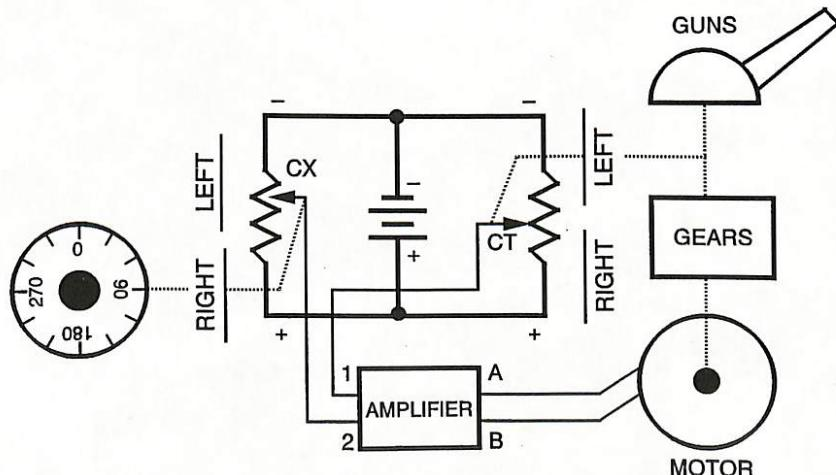

Figure 28. Gun Control Servo System
**Typical position servo.** In an actual system (see Figure 28), the heavy gun turret's momentum tends to carry it past the desired position. This overshoot causes the rotor of the CT to move out of correspondence with the TX rotor. A new error signal develops, opposite in polarity to the original input signal. The new error signal opposite direction. The correcting process, called hunting, may continue until the gun is positioned correctly, with each succeeding correction slightly smaller than before. In most servos an antihunt electronic network or damping system is used to minimize this undesirable effect.